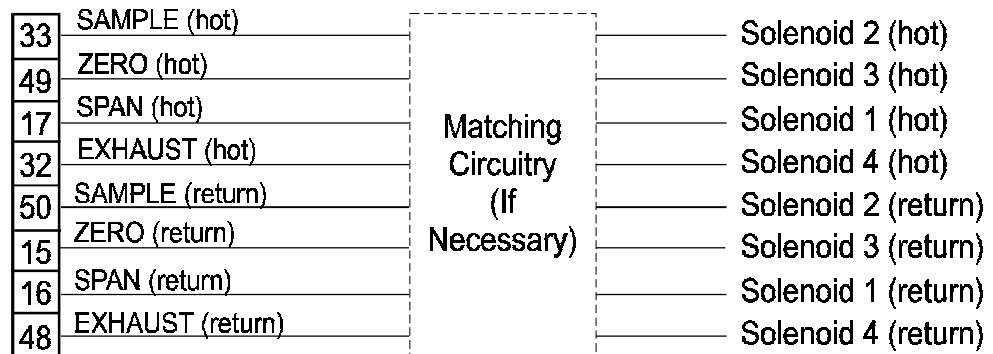

Figure 3-5: Remote Probe Connections
- Span:** Floating input. 5 to 24 V input across the + and – pins puts the analyzer into the *Span* mode. Either side may be grounded at the source of the signal. 0 to 1 volt across the terminals allows *Span* mode to terminate when done. A synchronous signal must open and close external span valve appropriately. See Figure 3-5 *Remote Probe Connector*. (The –C option internal valves operate automatically.)
Remote Valve Connections: The Ultra Trace 3000 is a single-chassis instrument, which has no Remote Valve Unit. Instead, the Remote Valve connections are used as a method for directly controlling external sample/zero/span gas valves. See Figure 3-5.